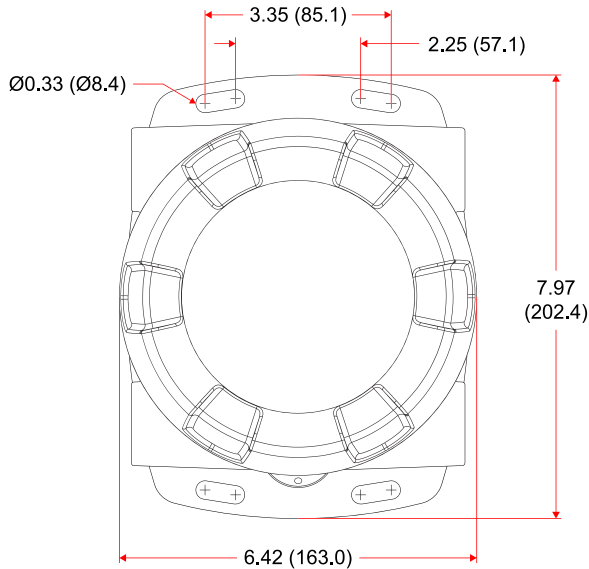
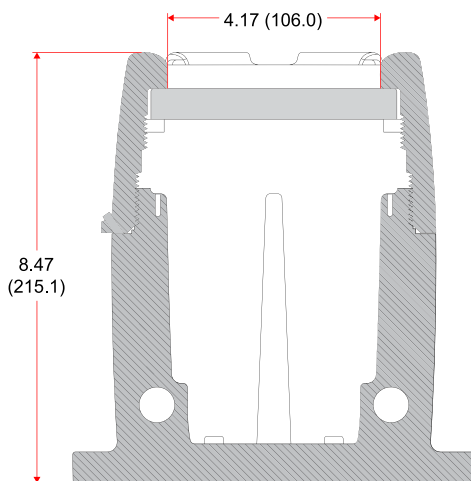

Figure 1. Enclosure Dimensions – Front View
Figure 2. Enclosure Dimensions – Side Cross Section View
The ProtEX-MAX has four slotted mounting flanges that may be used for pipe mounting or wall mounting. Refer to *Figure 1* and *Figure 2* below.
- Prepare a section of wall approximately 7" x 8.5" (178 mm x 216 mm) for totalizer mounting by marking with a pencil the mounting holes (shown in *Figure 1*) on the wall.
- Select the appropriate mounting screws for the mounting surface to be used. The mounting holes diameter is shown on *Figure 1*.